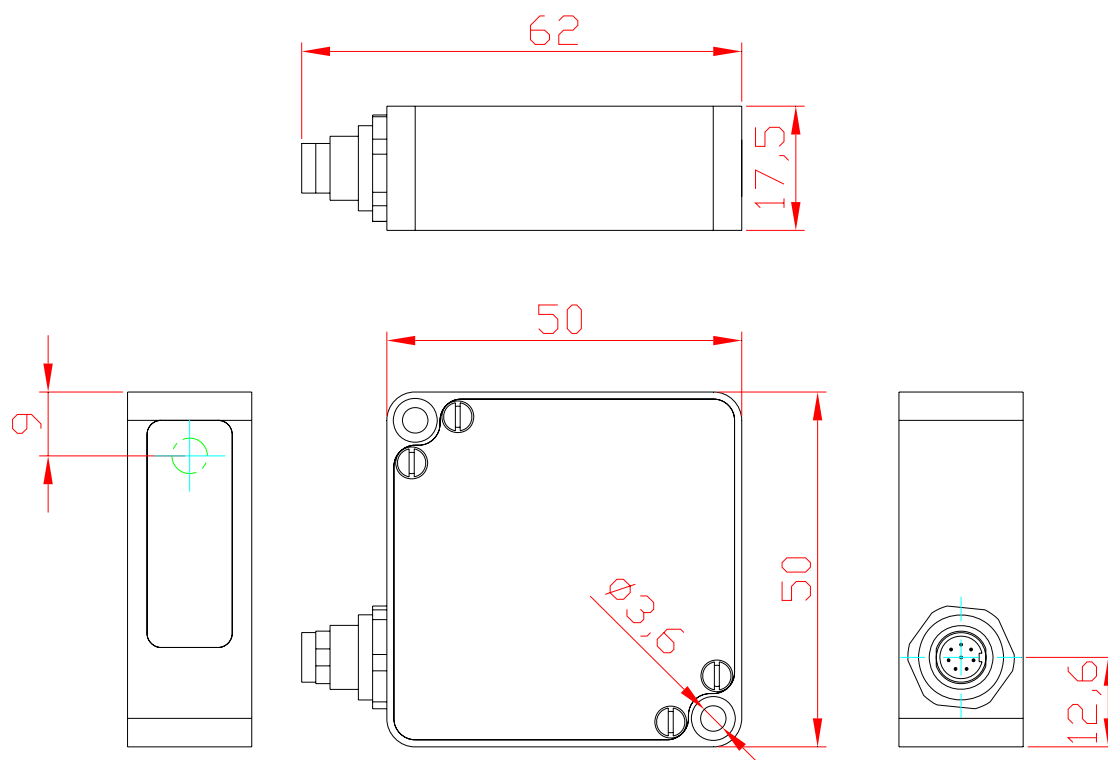

Figure 2.
5.1. Overall and mounting dimensions of the sensor are shown in Figure 2. Sensor package is made of anodized aluminum. The front panel of the package has output window. The package also contains mounting holes.